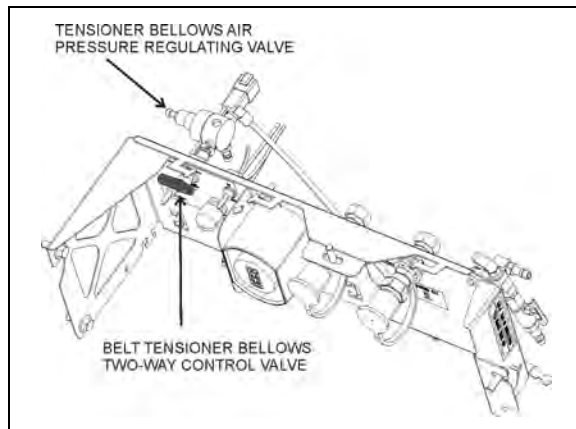

FIGURE 27: BELT TENSIONER CONTROL VALVE - H3 SERIES
2. For vehicles equipped with a 3rd alternator, belt tensioning is also applied through air bellows (Figure 25). Turn the belt tensioner two-way control valve counterclockwise to release bellows pressure (Figure 27).
For H3 series vehicles equipped with a 3rd alternator, (Figure 25) belt tensioning is also applied through air bellows which is adjusted by an air pressure regulating valve pressure (Figure 27). The correct pressure of 45 psi is set at the factory. Periodically verify the pressure at the regulating valve using a pressure gauge and correct if required.
Belt tensioning is applied through air bellows which are adjusted by an air pressure regulating valve (Figure 27). The correct pressure of 45 psi is set at the factory. Periodically verify the pressure at the regulating valve using a pressure gauge and correct if necessary.